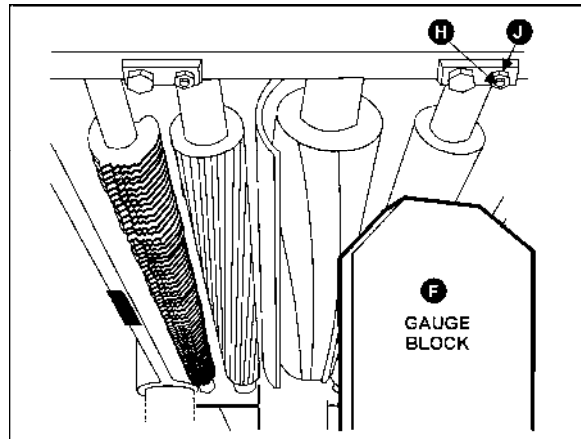

Figure 27
5. Remove the feeler gauge and move the gauge block (F, Figure 27) under one end of the outfeed roller. The bottom of the outfeed roller should just touch the top of the gauge block. If an adjustment to the outfeed roller is necessary, loosen the lock nut (J, Figure 27) and turn screw (H, Figure 27) until the outfeed roller just touches the gauge block. Then tighten lock nut (J, Figure 27).